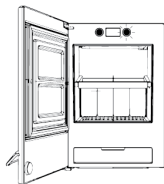

Fig. 1, press and hold “Activate Clean Cycle” button.
5. Press and hold the “Activate Clean Cycle” button for 3 seconds to begin cleaning cycle. See Fig. 1.